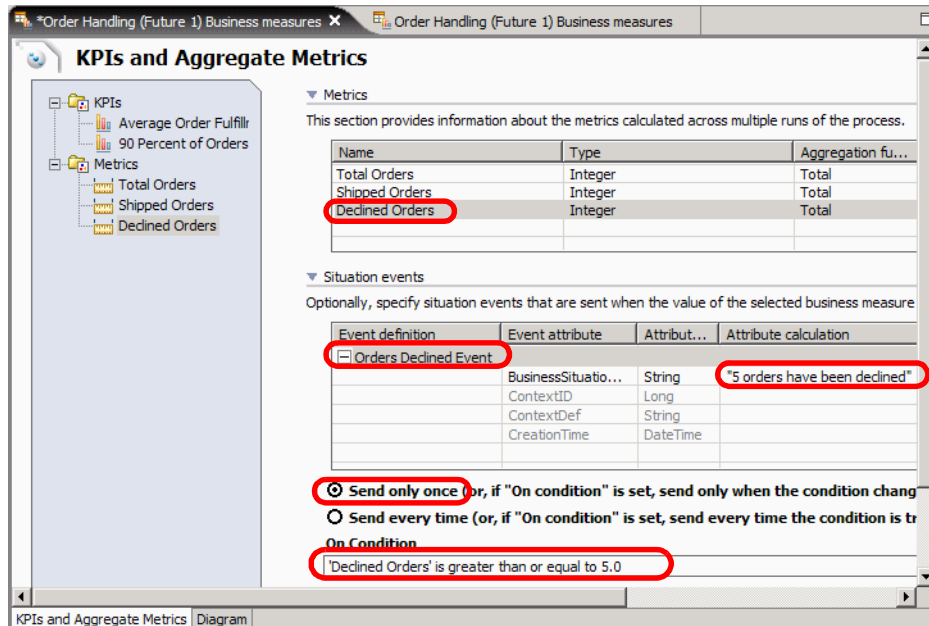

Figure 8-35 Triggering an event by a metric
- ▶ Select the *Declined Orders* metric in the Business Measures editor (Figure 8-35).